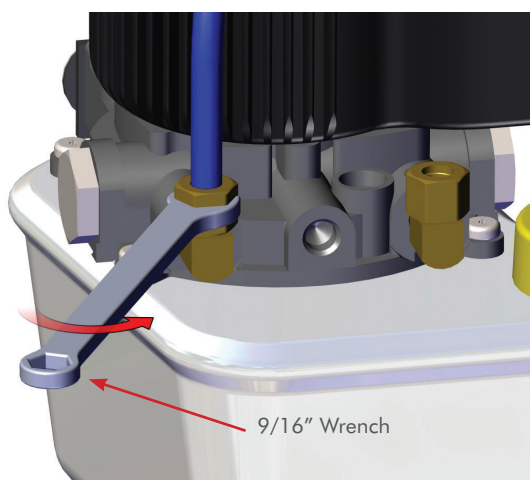
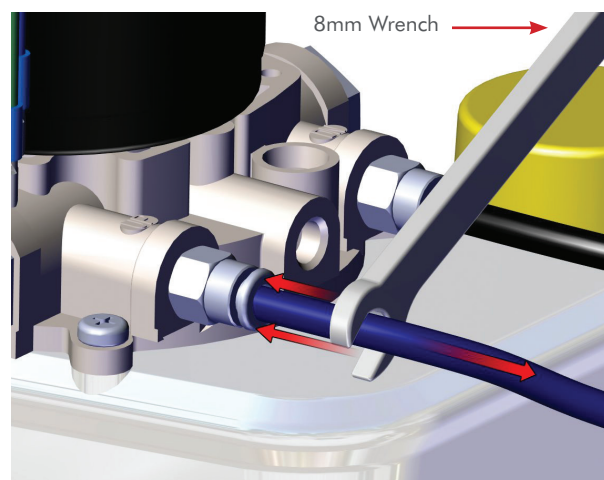

Figure 3
Figure 4
5. Hydraulic Pump: Using a 9/16" wrench turn the compression fitting nut counter clock wise (**FIG. 3**) or use a 8mm open ended wrench to press against the ring of fitting to release. (**FIG. 4**)